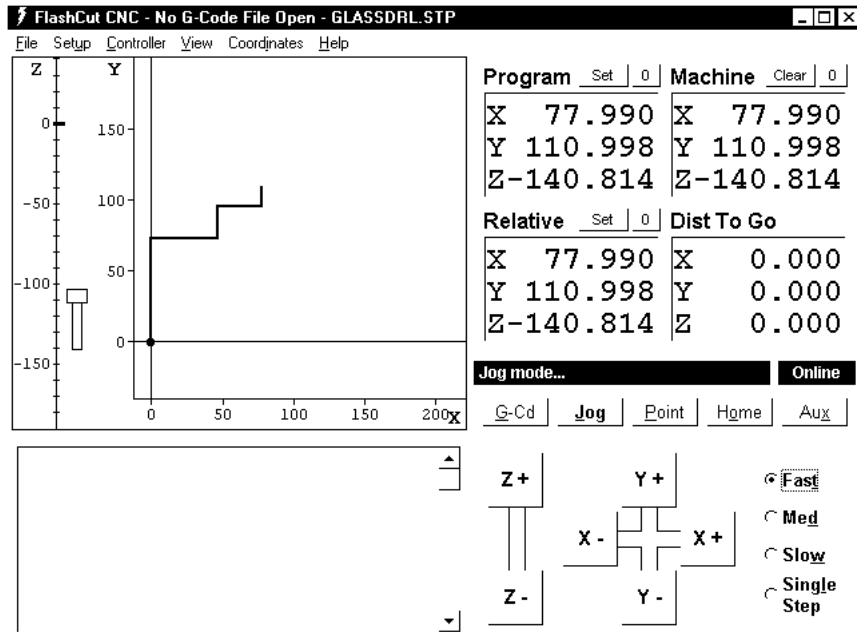

Figure 5: FlashCut window after jogging to nick position
2. Using the *jog* controls in the FlashCut program as shown in Figure 5, *use (+y) first, then* use the remaining *jog* controls to position the drill bit near the surface of the wafer in a region that can be nicked without hurting the final device. Place a drop or two of milling fluid on the wafer beneath the bit.